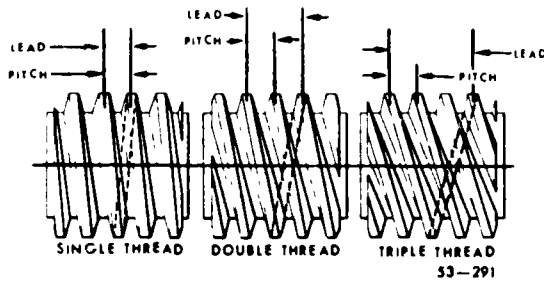

Figure 5-43 Comparison of single and multiple-lead threads
**Exercises (264):**
**Multiple Threads.** A multiple thread, as shown in figure 5-43, is a combination of two or more threads, parallel to each other, progressing around the surface into which they are cut. If a single thread is thought of as taking the form of a helix, that is, of a string or cord wrapped around a cylinder, a multiple thread may be thought of as several cords lying side by side and wrapped around a cylinder. There may be any number of threads, but they must start at equally spaced intervals around a cylinder. Multiple threads are used in cases where rapid movement of the nut or other attached parts is desired and any weakening of the thread is to be avoided. A single thread having the same lead as a multiple thread would be very deep in comparison to the multiple thread.
figure 5-43. Provisions must also be made to obtain the correct spacing of the different thread grooves. This may be accomplished by using the thread-chasing dial, setting the compound parallel to the ways, using a multiple driving plate, or using the stud and box gear break up.